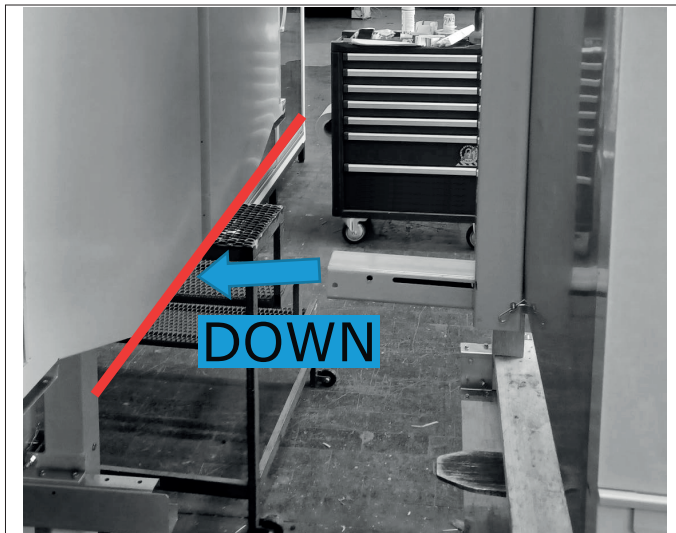

Fig. 47
- Position the cabinet so that the top spar is above the roof line of the gondola ("Fig. 46") and that the lower spar is below the line of the gondola tub ("Fig. 47 , Pag. 31").